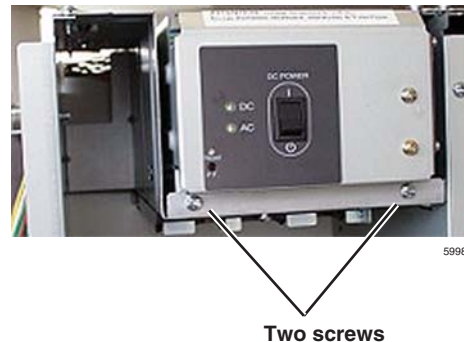

Figure 3-15 Power Supply (APSU112)
1. Make sure that the power supply switch is Off and that the AC power cable is not plugged into an outlet. Confirm that the green AC LED is not lit (see Figure 3-15).
2. Remove the two screws in front of the Power Supply (see Figure 3-15).
9. Insert and tight the two screws in front of the power supply (see Figure 3-15).